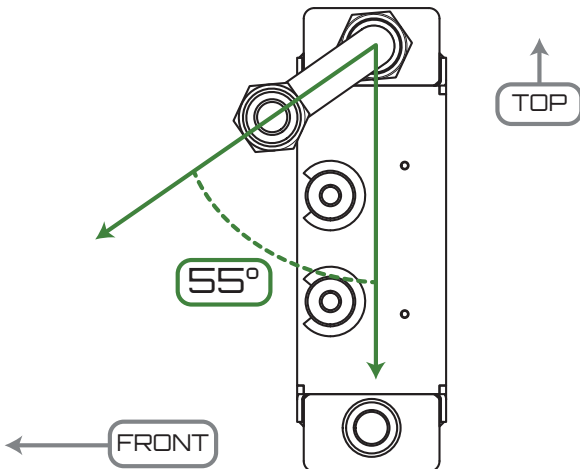

Figure 3 - Installation Angle for SFM-10 Adapter Fitting
8. Install the top SFM-10 fitting onto MHX-245C as shown in Figure 3.